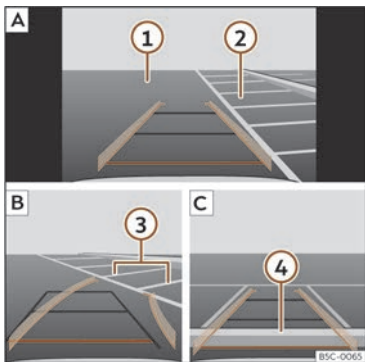

Fig. 160 Display on the infotainment system screen: parking with the reverse assistant.
Key to >>> **Fig. 160:**
- Stop the vehicle in front of the parking space >>> **Fig. 160 2 A**.